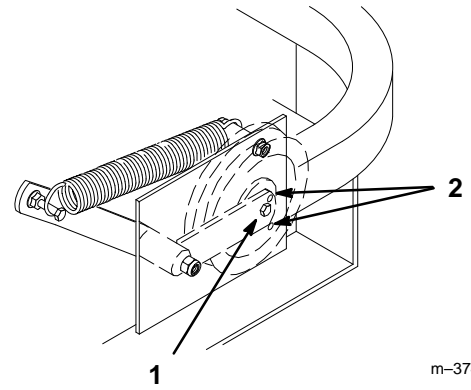

Figure 50
5. Check belt tension. The center bolt of spring loaded idler must be between the two alignment holes in left support plate (Fig 50).
7. Check belt tension again. The center bolt of spring loaded idler must be between the two alignment holes in left support plate (Fig 50). Adjust, if necessary, and tighten all hardware securely.